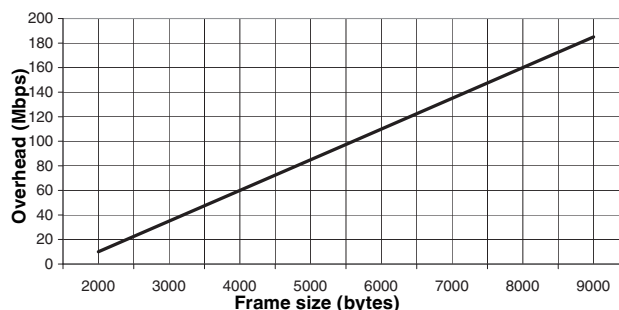
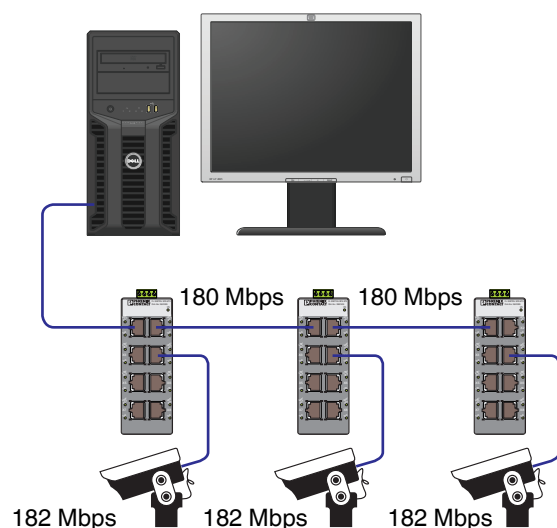

Figure 13 Overhead/cascaded switch vs. frame size
Figure 14 9000-byte frame size example
3. Determine the traffic load for bandwidth consumed by application overhead and pause frames (see Figure 13). After the first switch, add this amount for each additional switch segment.
Figure 14 depicts an example with three cameras connected to individual switches. Each camera is configured for an **8 bits per pixel** color depth, creating a load of **182 Mbps** per camera (see Table 2) with a total traffic load of **546 Mbps**. Frame size is configured to 9000 bytes creating an overhead of **180 Mbps** (see Figure 13) for each cascading switch for a total of **360 Mbps**.